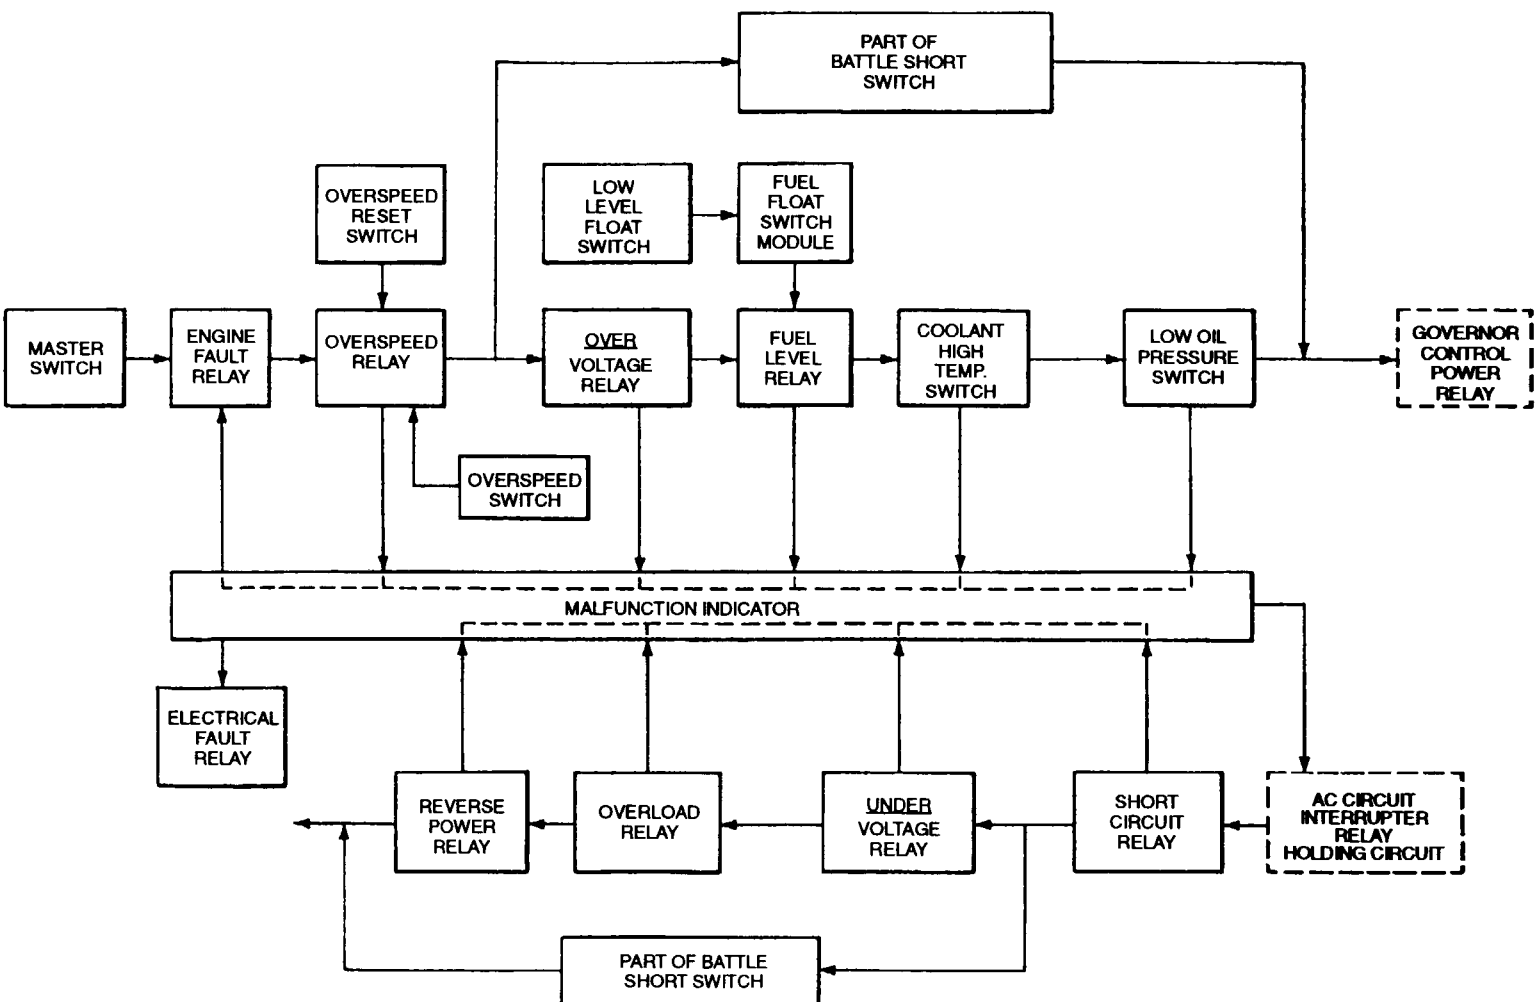

FIGURE 1-2. Fault System
1.12.1.1 The Fault System (FIGURE 1-2) protects the generator set and any connected load against the potential faults described below and provides an indication of any incurred fault. The following summary of the Fault System will assist in understanding the operation of the other generator set systems. Additional details relating to specific protection devices are also provided in the descriptions of the respective systems.